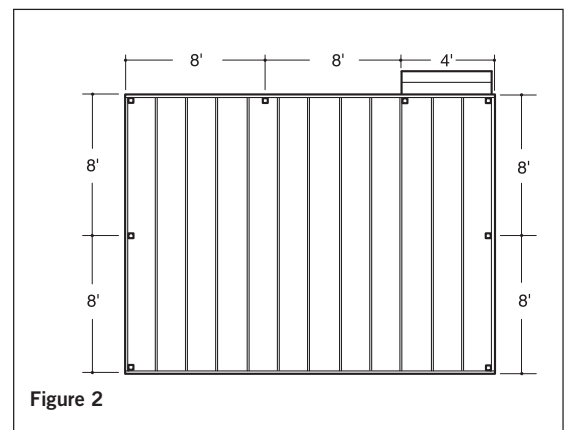

Figure 2
Step 1 Determine the number of railing posts needed for your deck. Post spacing is 8' on-center. Example: A 16x20 deck attached to a building with a 4' access opening on one side will require a total of eight posts (**Figure 2**).